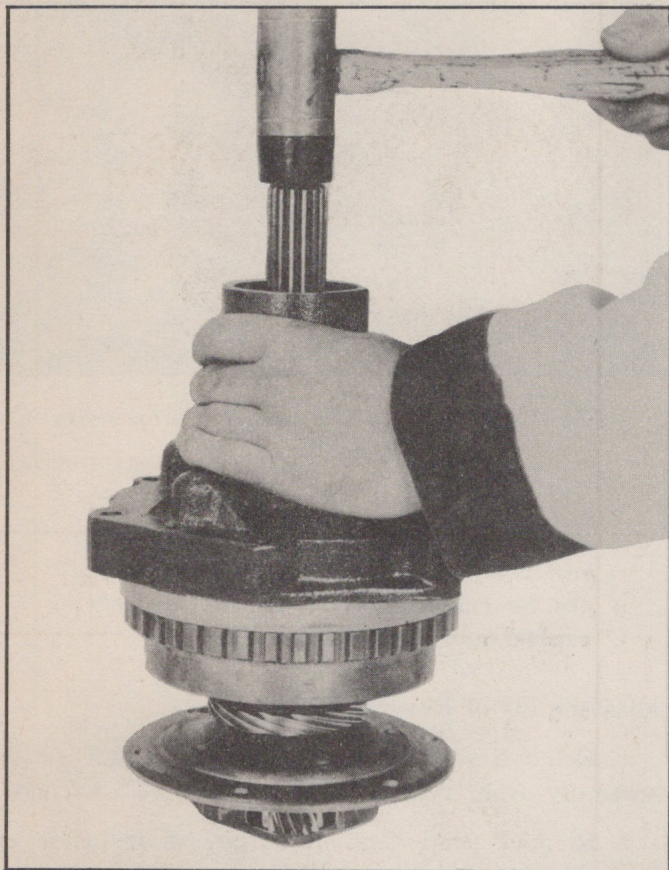

Fig. 144—Removing Rear Bearing Retainer from Output Shaft
3. With output shaft standing on carrier end, remove bearing retainer from output shaft (Fig. 144). (It may be necessary to tap output shaft with a rawhide or similar hammer while holding rear bearing retainer to separate units.)